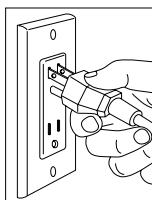

Figure 1
1. Plug-in the sander's AC power cord to the power source (110V a.c. output). The warning "beep" sounds would be occurred after the plug is securely plug-in to the power source and the LED indicator shows "Solid Red" color at the moment. - see *figure 1*.